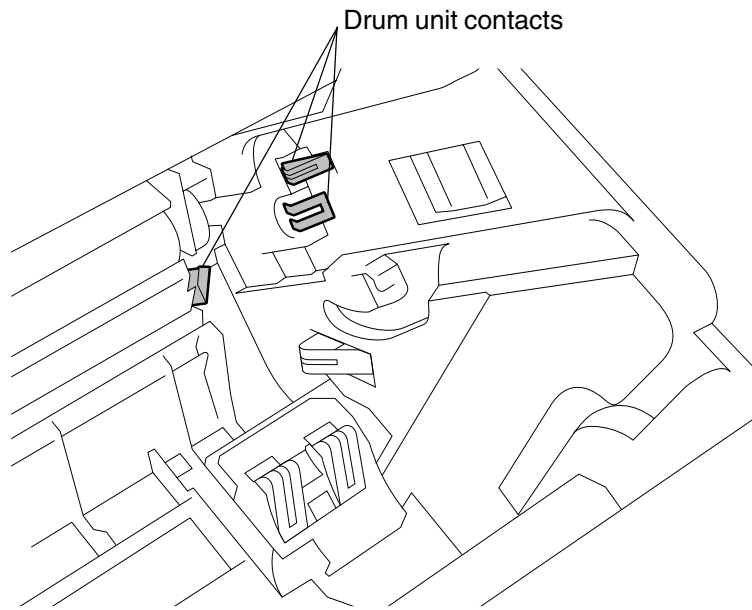

Fig.10-2-19
13. Drum unit contacts (refer to Fig.10-2-19)